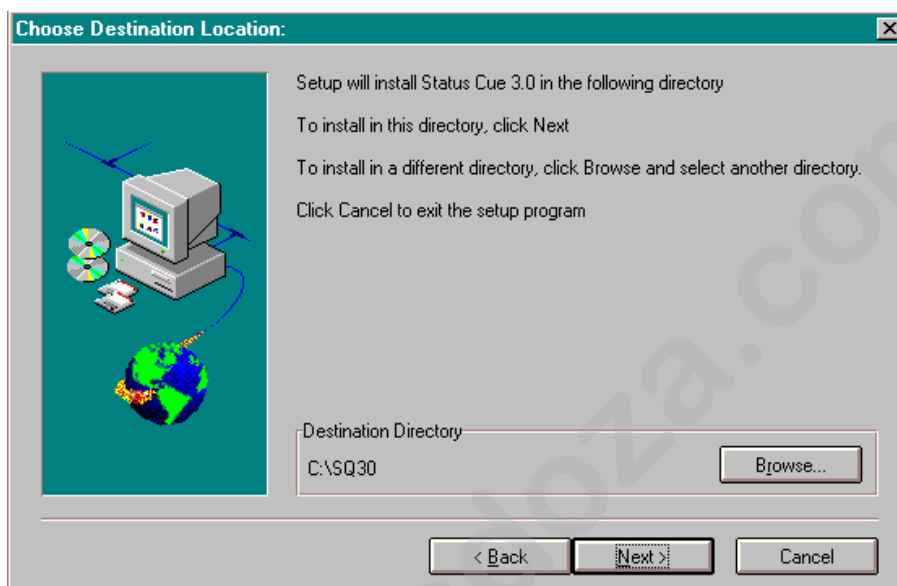

Figure 1.30. Sample Choose Destination Directory Dialogue Box
9. If you wish to install *Status Cue for Windows* into the default directory `c:\SQ#` (# is the software version), click the **Next** button to proceed. Refer to Figure 1.30.